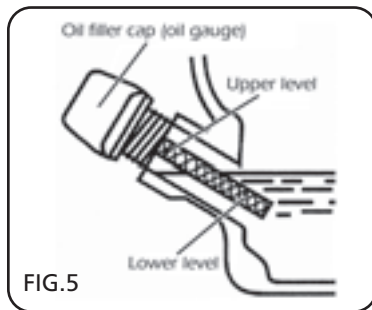

FIG.5
8.4 CHECKING THE ENGINE OIL - FIGS. 5 - 6